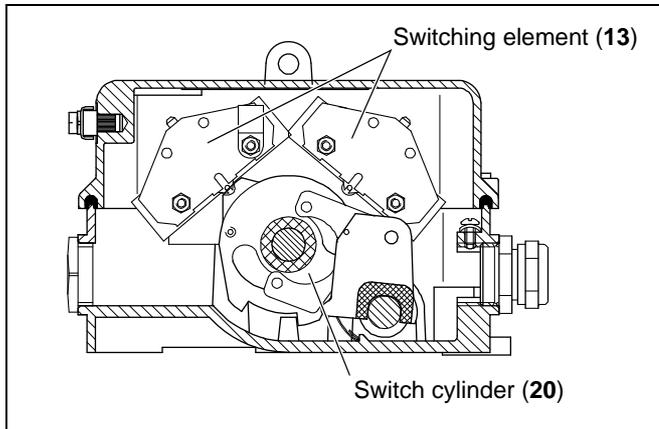

Fig. 3-2: Switch cylinder and switching elements
Actuating the Trigger lever (1) by using the Tear rope (3) causes the Switch cylinder (20) to move to the "Off" position, and the Trigger lever (1) is decoupled (see fig. 3-2). No further switching operation is then possible.